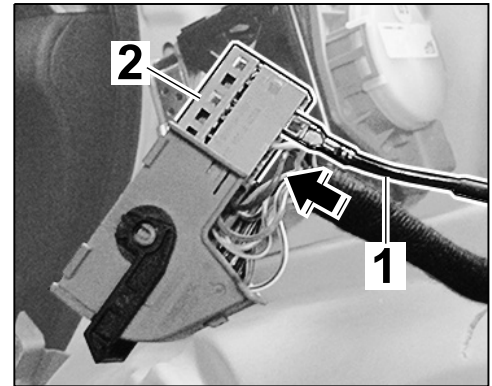

Figure 14
- 2.4.6 Insert socket contact ⇒ *Figure 14 -1-* into chamber A2 of the grey plug socket ⇒ *Figure 14-2-*.